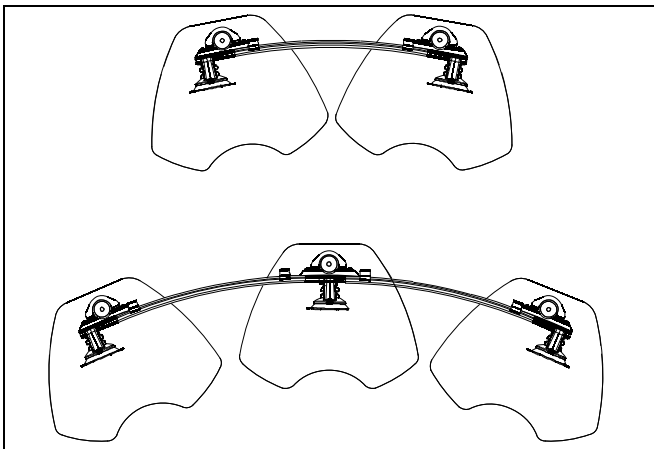

**Figure 8**
11. Install two button head cap screws (F) and two flat washers (E) through pole clamp (B) and into array attachment bracket (A). (See Figure 7) and (See Figure 8)
12. Secure pole clamp (B) to array attachment bracket (A) using hex wrench (C) provided. DO NOT fully tighten at this time! (See Figure 8)